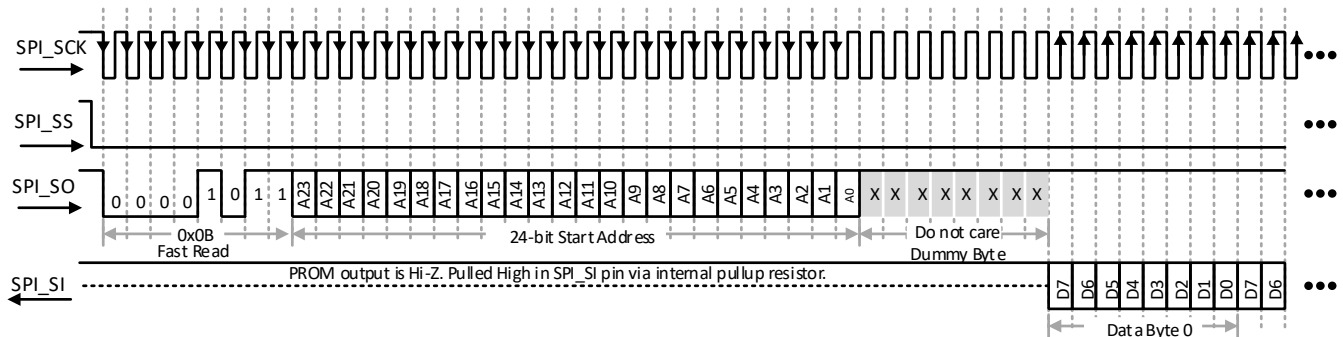

Figure 9.4. SPI Fast Read Command
- The PROM must support the 0x0B Fast Read command, using a 24-bit start address and has 8 dummy bits before the PROM provides first data (see Figure 9.4).
Figure 9.4 illustrates the next command issued by the iCE40 device. The iCE40 SPI interface again drives SPI_SS Low, followed by a Fast Read command, hexadecimal command code 0x0B, followed by a 24-bit start address, transmitted on the SPI_SO output. The iCE40 device provides data on the falling edge of SPI_SS. Upon initial power-up, the start address is always 0x00_0000. After waiting eight additional clock cycles, the iCE40 device begins reading serial data from the SPI PROM. Before presenting data, the SPI PROM serial data output is high-impedance. The SPI_SI input pin has an internal pullup resistor and sees high-impedance as logic 1.